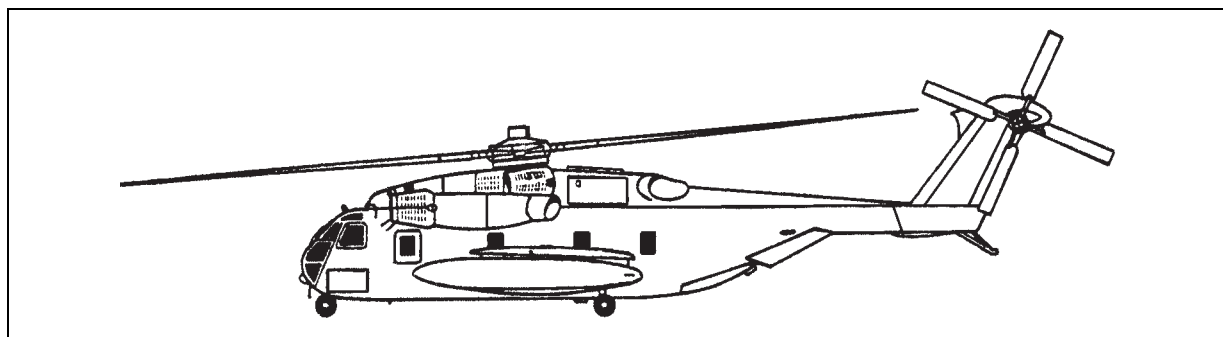

Figure 2-18. H-53E Super Stallion
- H-53E.** The triple engine H-53E Super Stallion (figure 2-18) is a growth variant of the CH-53D. Its primary mission is either vertical on board delivery, airborne mine countermeasures, or aerial delivery of supplies and equipment.